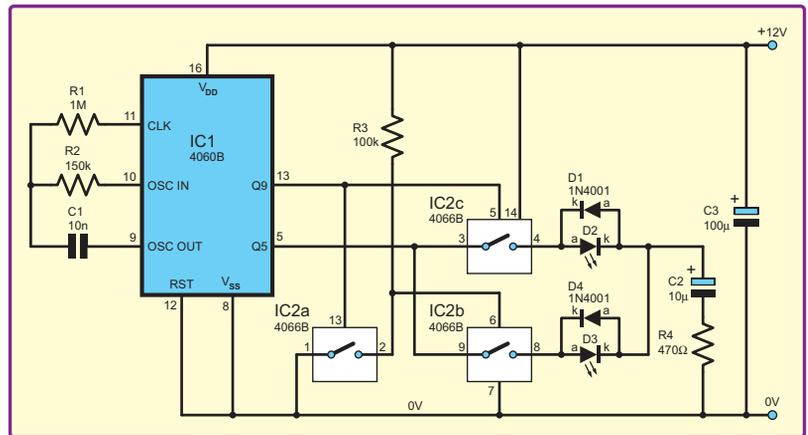

Fig.1. Circuit diagram for the Emergency Flash
**T**HE circuit pictured in Fig.1 simulates an emergency flash that one frequently sees on emergency vehicles. This is a rapid-fire blue flash that alternates between the right and left sides of the vehicle. The Emergency Flash could be used in models, or as a unique LED flasher.